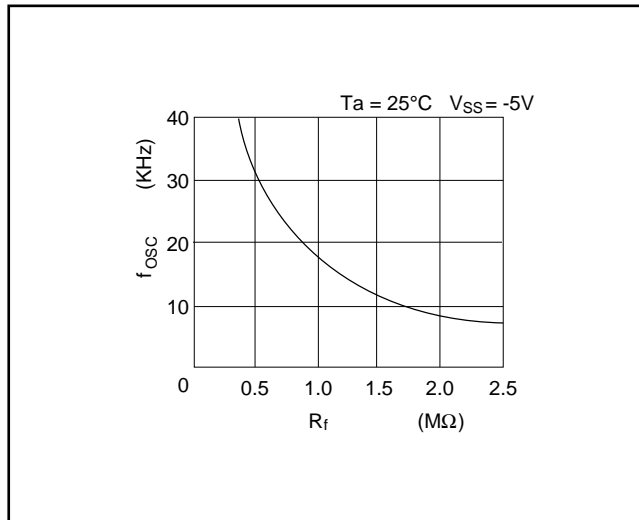

Figure 5.1
- *9. Relationship between the oscillation frequency, frame and Rf (see Figures 5.1 – 5.3).